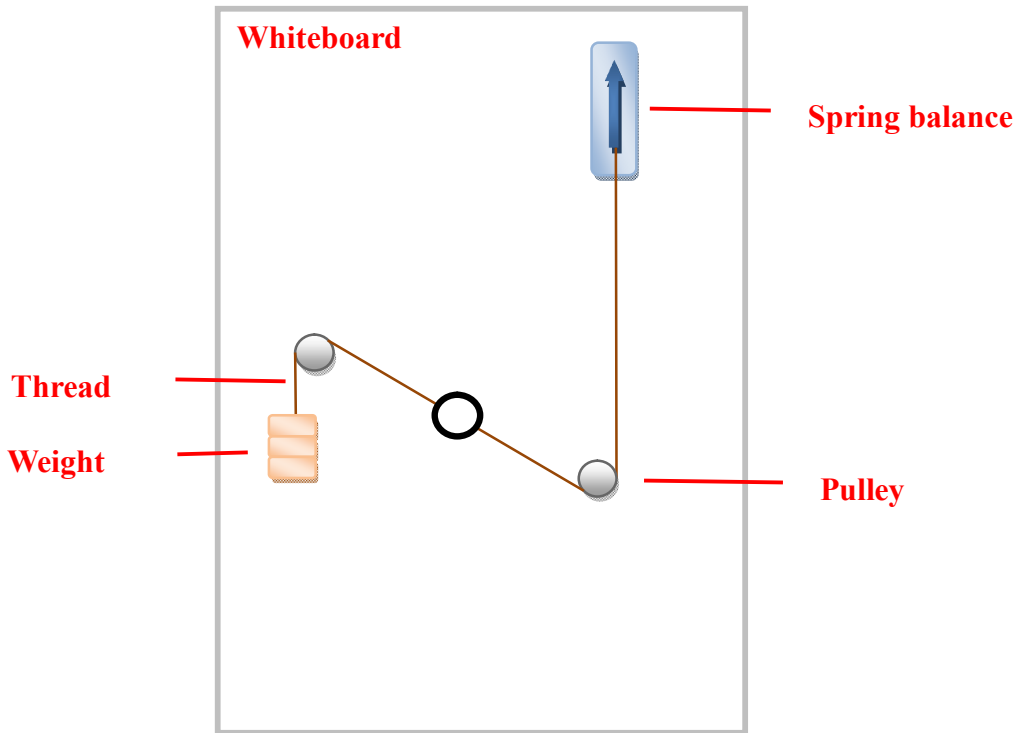

Figure 2-2 Experimental device
1. Spring balance adsorbed on whiteboards, spring scale zero initial value, use two pieces of thin wire connected to one end of the s-hook-loop, and then hook the o-rings, bypass the two pulleys, hanging spring scale and weights, respectively, as in Figure 2-2. And application of weights on the replay m g